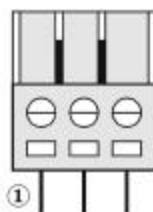

Figure 7.19 Temperature Probe 3-Terminal Connector (Top View)
10. Connect the three wires to the screw terminals according to color scheme shown in Figure 7.19 and Table 7.10.